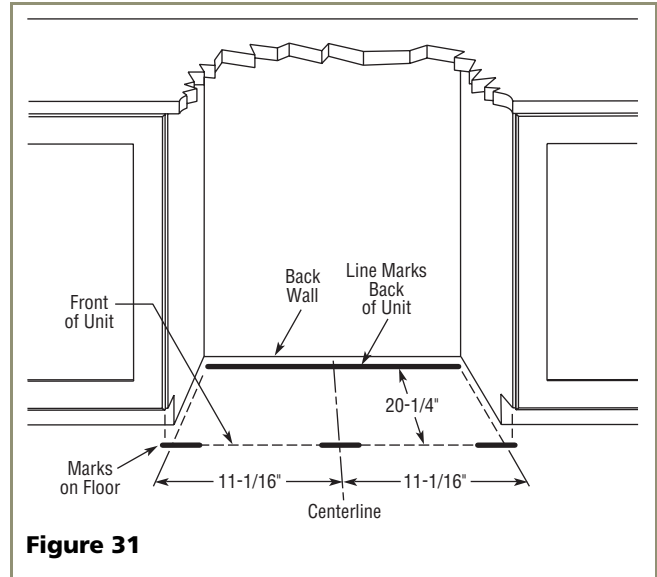

Figure 31
4. Remove the unit. Using a square, extend a centerline 20-1/4" toward the back wall. See **Figure 31**. At the back of the centerline, mark a line that measures 11-1/16" to the left and right. This line serves as the back edge for the Anti-Tip Brackets and its furthest points mark the outer edge of each bracket.